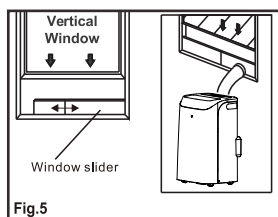

Fig.5
- Affix the hose outlet into the window slider kit and seal. (Fig.5 &6).